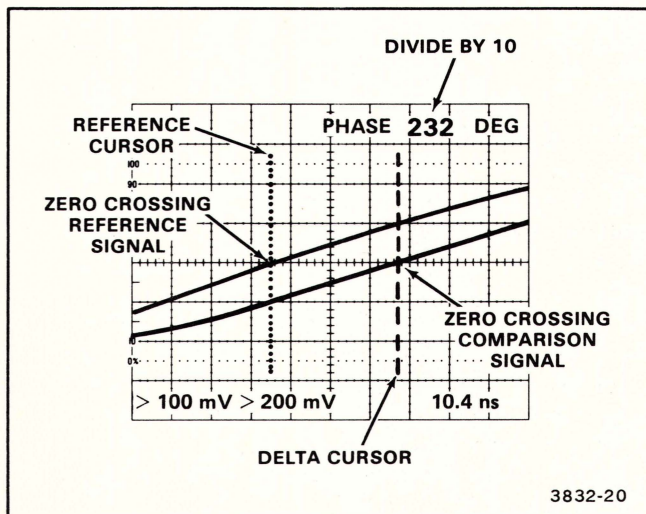

Figure 6-8. Small-angle phase difference.
4. Align the Delta cursor with the second comparison zero-crossing (see Figure 6-8).